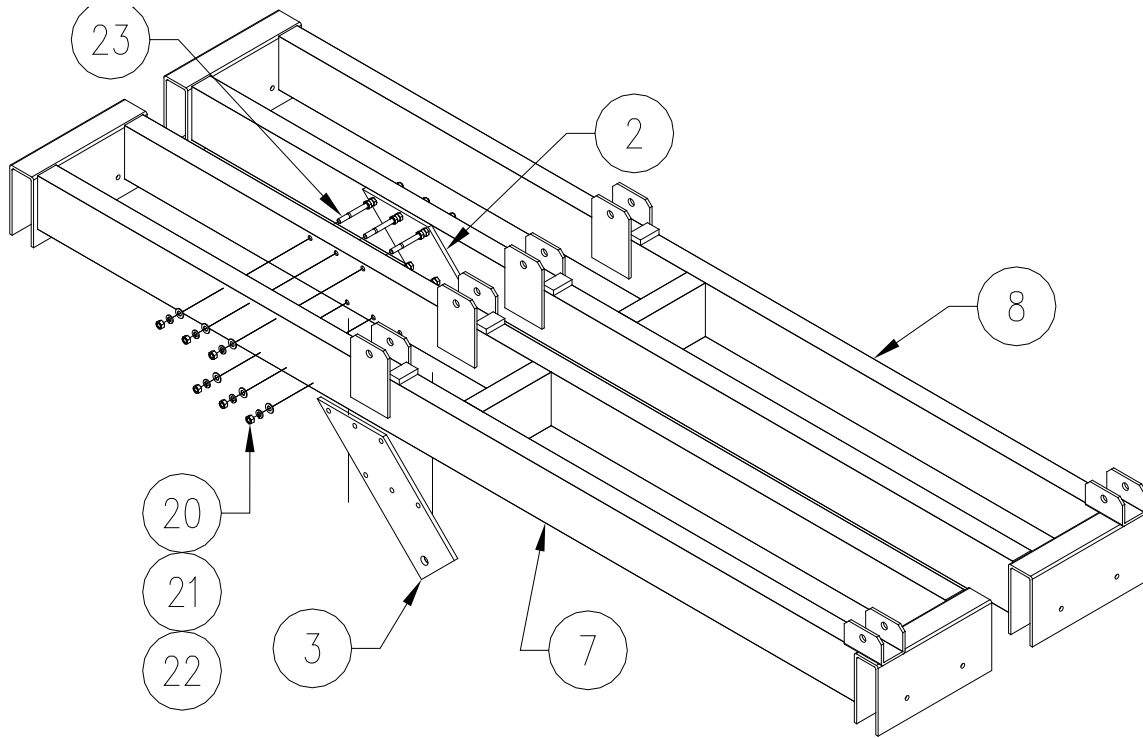

Figure 3-2.
1. Refer to Figure 3-2. Install the (3) cylinder support onto the left main frame (7).
3. Repeat steps 1 and 2 to install (2) cylinder support to main frame (8).